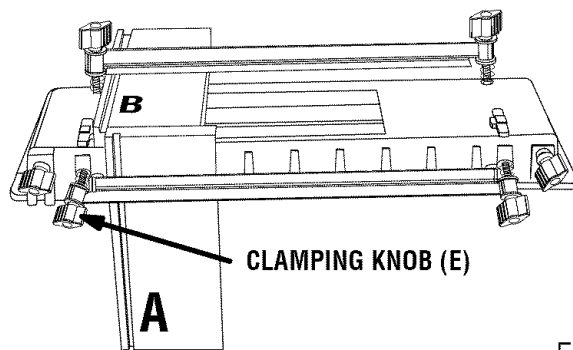

Fig. 13
- Tighten clamping knobs (E) on top clamping bar to hold board (B) securely.
- Relocate board (A) so that it is flush with the top of board (B) and against 2-way stop on left front of dovetail base. See Figure 13.
- Tighten front clamping knobs (E) to hold board (A) securely.